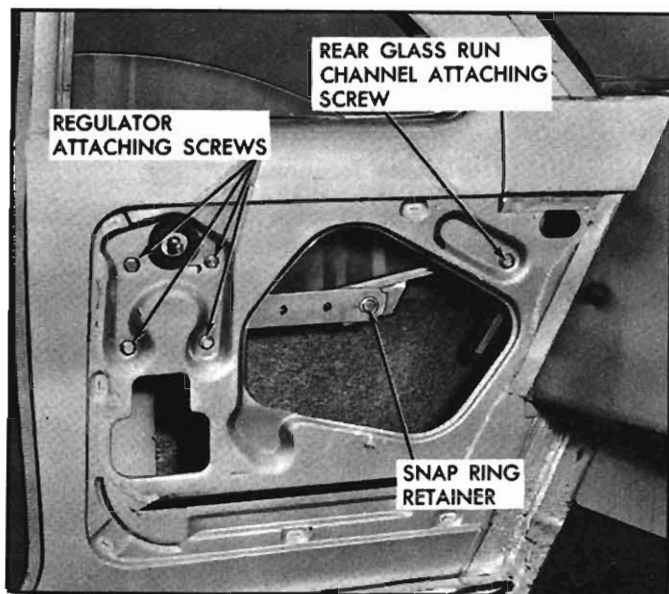

Fig. 15—Rear Quarter Hardware Attachment "27" Styles
2. Operate window to half-down position. Remove snap-ring retainer securing regulator lift arm to window assembly (fig. 15) and, while supporting window assembly with one hand, disengage regulator lift arm.
5. If regulator is to be removed, remove regulator attaching screws (fig. 15) and remove regulator through large access hole.
1. To properly align the window in the opening, operate the window to the "full-up" position and loosen the window regulator attaching screws (fig. 15). Position the window so the front sash channel is in proper alignment with the front glass run channel and tighten the regulator attaching screws.
2. To adjust the window so that it seats properly in the run channels, first align it with the front glass run channel as described in Step 1. Then operate the window to the "full down" position and loosen the rear glass run channel lower attaching screw (fig. 15). Adjust the run channel so that it bears slightly against the rear edge of the glass and tighten the run channel attaching screw. Operate the window through several complete cycles to check for proper operation.
2. Operate window to half down position and remove snap-ring retainer securing regulator lift arm to window lower sash channel assembly (fig. 15).
2. Remove glass run channel attaching screw (fig. 15).